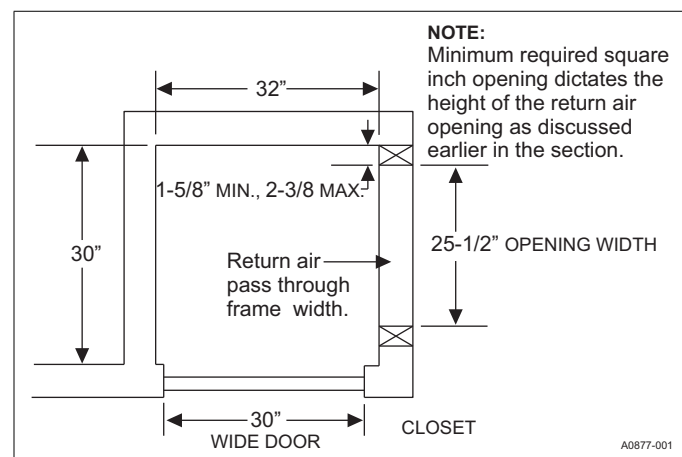

FIGURE 3: Upflow Closet Clearances
2. Refer to the unit rating plate for the EBE/EUE model number, and then see the dimensions page of this instruction for supply air plenum dimensions in Figure 3. The plenum must be installed according to the instructions.